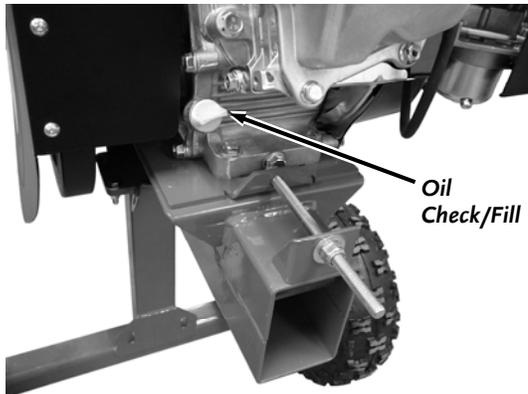

Figure 21
1. Remove the Oil Fill/Dipstick (**Figure 21**).